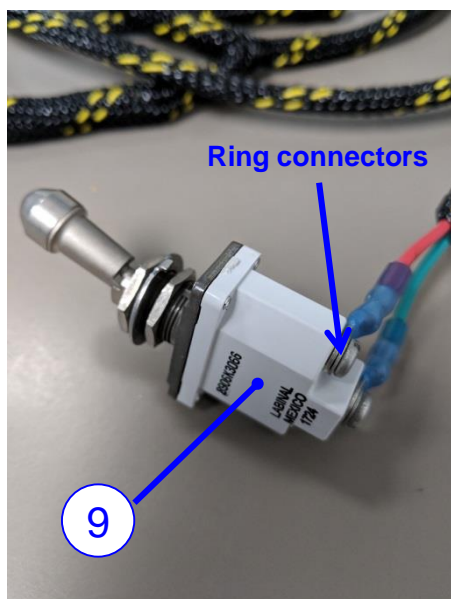

Fig. 2 – Toggle Switch and wiring harness ring connectors attached.
5. Connect the two small ring terminals of the wiring harness (Item 10) to the switch. See figure 2.